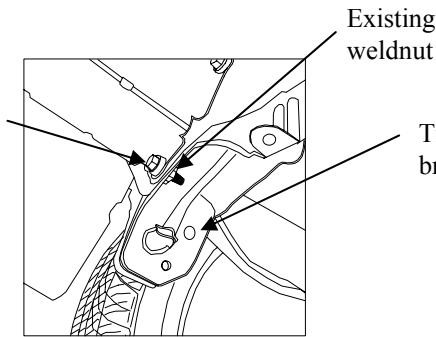

Figure 2.
①	Qty. (2)	Hex bolt M8 X 1.25 X 35 CL9.8	⑤	Qty. (2)	Hex nut 1/2-13
②	Qty. (2)	Hex bolt 1/2-13 X 2.00 GR5	⑥	Qty. (2)	Hex bolt 3/8-16 X 1.75 GR5
③	Qty. (4)	Spacer	⑦	Qty. (4)	Conical washer 3/8"
④	Qty. (2)	Conical washer 1/2"	⑧	Qty. (2)	Hex nut 3/8-16
- Remove appearance panel which covers the trunk pan. Remove the (7) plastic rivets that fasten the fascia tabs to the vehicle. Note: Remove the center of the rivet with a screwdriver. Return appearance panel and fasteners to vehicle owner.
- Remove existing M8 bolts (2) from end of each frame rail. Return fasteners to owner. See Figure 2.